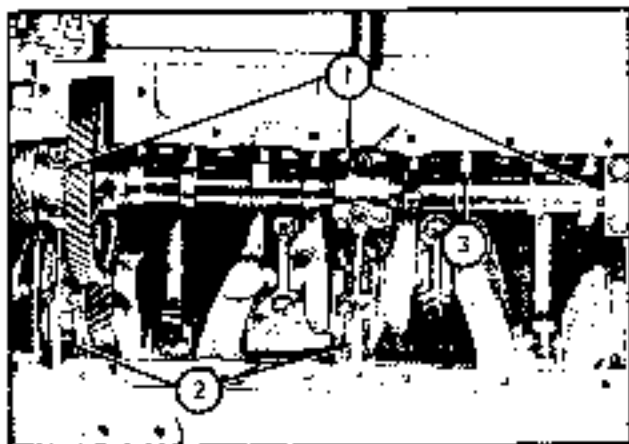

Fig. 1-29. Bearing Caps
e. Remove the cap screws from the camshaft bearing caps (figure 1-29). Remove the screws holding the oil lines to the crankshaft bearing caps. The center and the front bearing caps are not interchangeable. Before removing the center and the front bearing caps, be sure they are marked with a center punch. Remove the bearing caps, and keep them in their original order. Remove the camshaft. Keep the tappets in their original order.